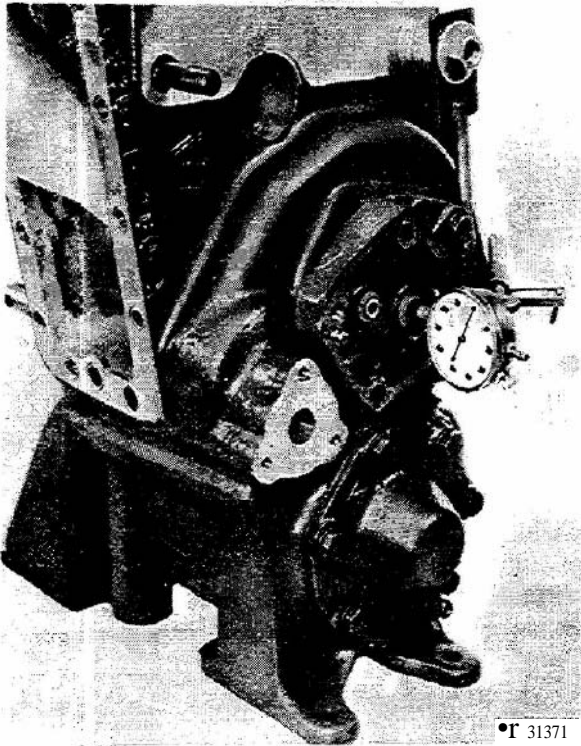

Figure 3-75. Checking intermediate shaft end-play.
(15) Connect a dial indicator to transfer case and connect tip of indicator to intermediate shaft (fig 3-75). Check intermediate shaft end-play. End-play should be 0.001 - 0.002 of an inch, if not, adjust end-play by varying the amount of shims (41 and 49, fig 3-47).